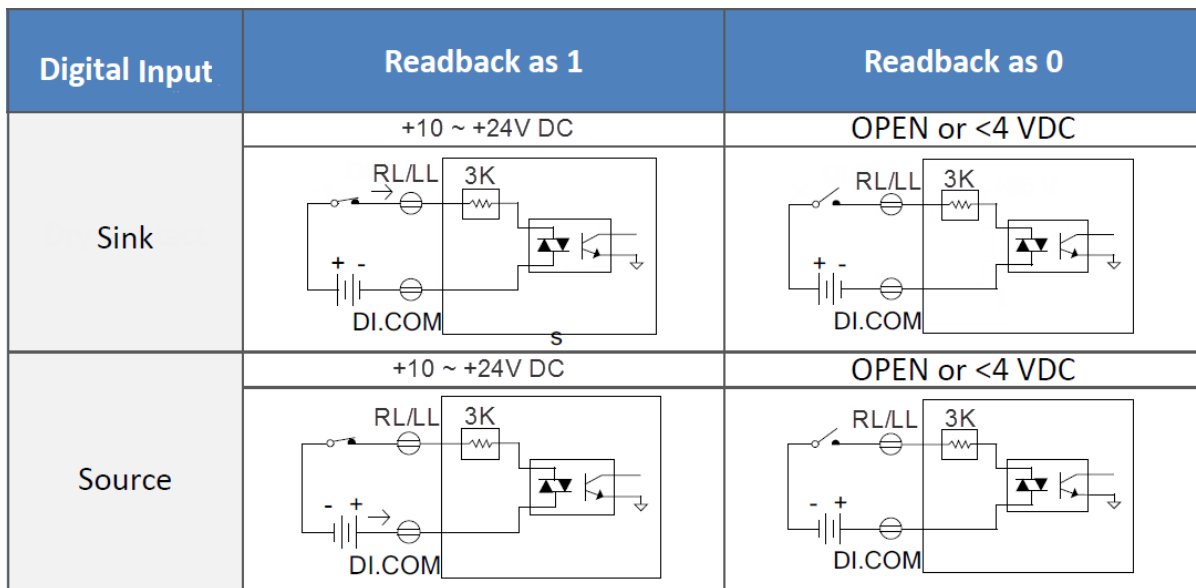

Figure 6: Digital inputs RL and LL for motor X, Y, Z, U
The diagram for right (RL) and left (LL) limit switch wiring for axis X, Y, Z, U is shown below (Figure 6).